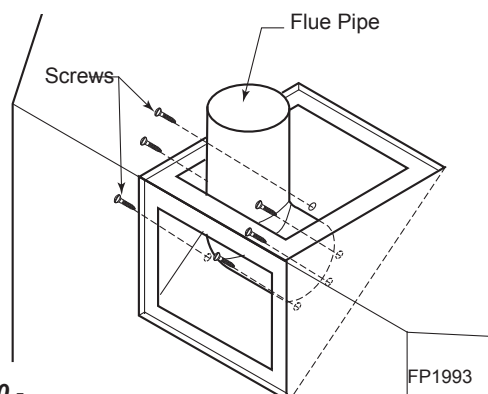

**Figure 10 -
5. Replace flue pipe to top of firebox. Ensure the gasket is in place and undamaged. Secure with six (6) screws. *Figure 10*
7. Refit the flue pipe adapter and gasket to the top of fireplace. Secure the adapter with eight (8) screws removed in step 1.